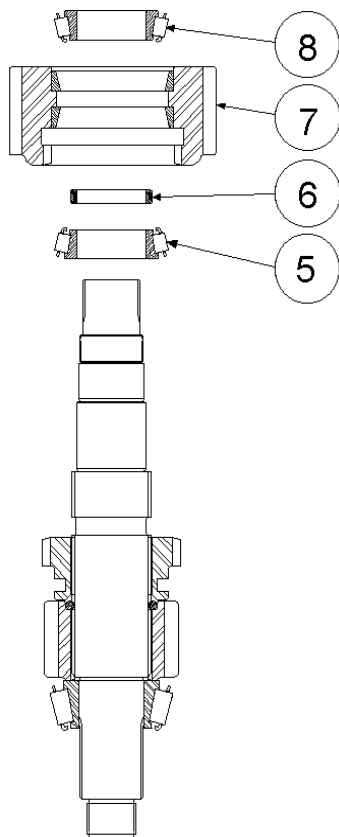
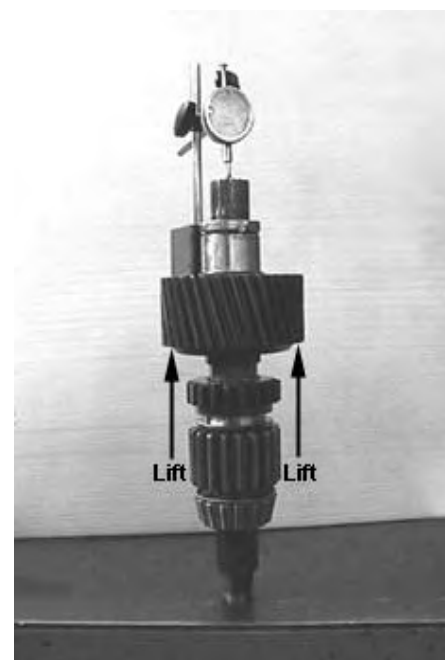

Fig. 35
Fig. 38
5. Install the remaining parts onto the shaft in the order shown in *Fig. 35 & 36*.
7. Check gear end-float using a dial indicator as shown below. Clearance should be .000 to .002 inches **loose**. If the end-float is not within the specified limits, (see page 8) another bearing spacer (#6 Fig 35) will need to be selected. *See Fig. 38.*